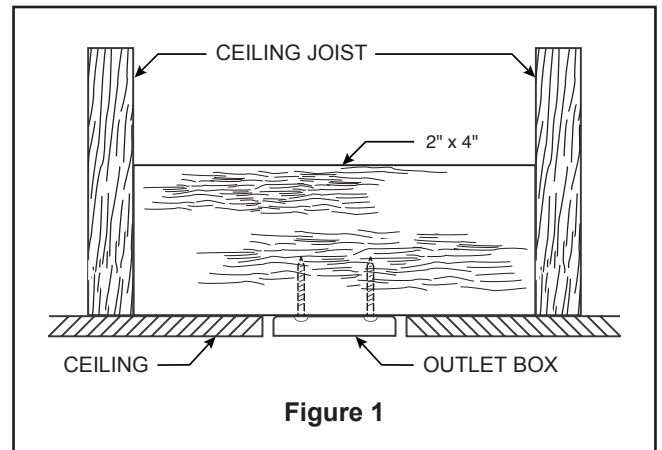
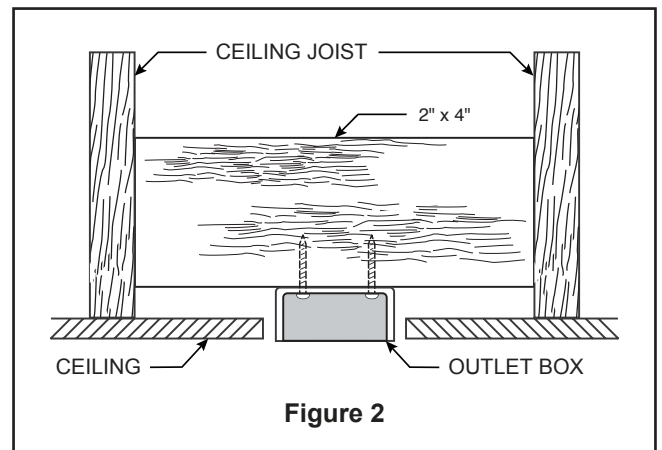
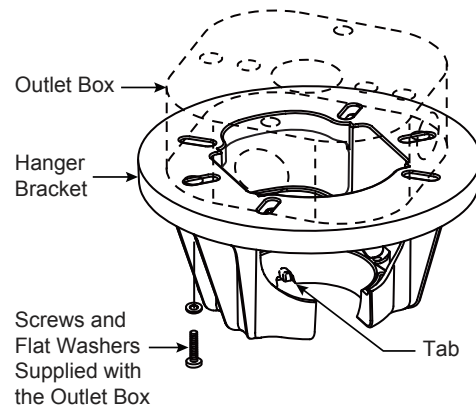
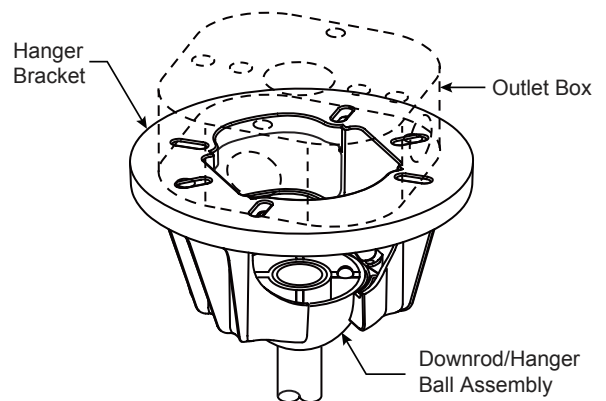

Figure 1
Figure 2
Figure 3
Figure 4
Your new ceiling fan will require a grounded electrical supply line of 120 volts AC, 60 HZ, 15 Amp Circuit. Electrical code requires use of a fan-rated outlet box to support the extra weight and motion associated with a ceiling fan. A fan-rated box will be labeled as such and typically supports up to a 70lb ceiling fan. Fan-Rated Outlet Boxes vary in ratings and design. Ensure the ratings of your ceiling fan outlet box meet the requirements for the ceiling fan being installed. Figure 1, Figure 2 and Figure 3 depicts different structural configurations that may be used for mounting the outlet box.
Low profile box (Figure 1)
Deep box (Figure 2)
Deep box with brace (Figure 3)
3. Loosen the two set screws and locking nuts in the downrod support of the motor housing assembly. Route the brown, blue, red, gray and yellow wires through the downrod. (Figure 3)
4. Slide downrod into the downrod support on top of the motor housing assembly. Install the clevis pin by aligning the holes in the downrod support with holes in the downrod. Secure clevis pin with hairpin clip. Tighten the two set screws with nuts in the downrod support. Securely tighten the set screws with screwdriver then fully tighten the nuts by hex wrench. (Figure 4)
1. Securely attach the hanger bracket to the outlet box using the outlet box screws and washers supplied with the outlet box. (Figure 3)
NOTE: Outlet box screws pass through slotted holes of the hanger bracket. (Figure 3)
3. Carefully lift the fan and seat the downrod/hanger ball assembly onto the hanger bracket that was just attached to the outlet box. (Figure 4) Be sure the groove in the ball is lined up with tab on the hanger bracket. (Figure 3)
- 2. Slide the receiver into the hanger bracket before wiring as shown in figure 3.
3. Connect wires using connectors as shown in Figure 4.
3. Remove the battery cover from remote control by screwdriver and retain the screw for later. (Figure 3)
4. To make fan operational, install two 3V batteries (included) in hand-held remote transmitter, with fan power off. Then, follow the remote code setting process. If not used for long periods of time, remove battery to prevent damage to transmitter. Store the remote away from excessive heat or humidity. (Figure 4)